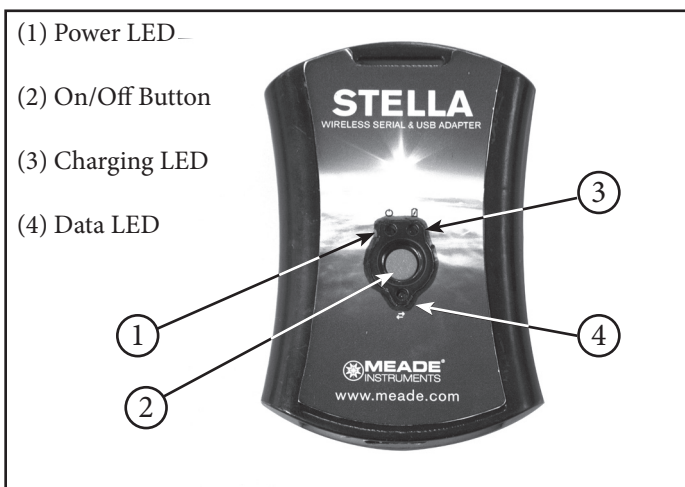
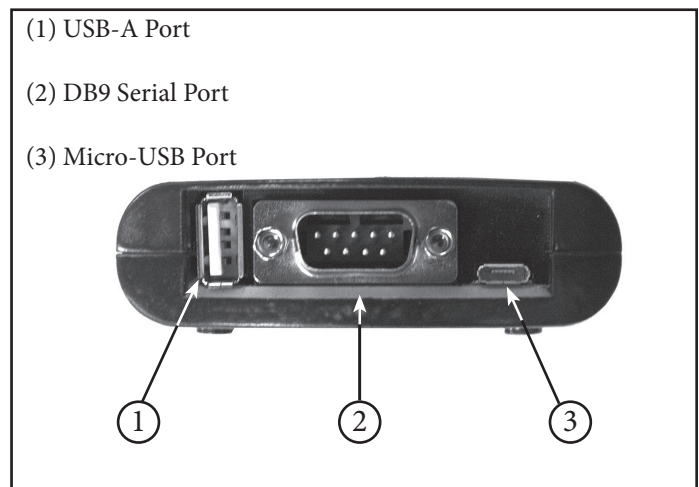

Fig. 1: Stella Wi-Fi Adapter (Top View)
Fig. 2: Stella Wi-Fi Ports (Side View)
Charge Stella before use! Plug in the included AC adapter into Stella's micro-USB port (3, Fig. 2) to charge. Stella will be fully charged once its charging indicator LED (3, Fig. 1) turns off. Charging time will depend on initial battery level. When fully charged, Stella's internal rechargeable lithium ion battery should last 4-8 hours depending on usage.
To turn Stella on and off, press and release the center on/off button (2, Fig. 1). The power LED (1, Fig. 1) will illuminate when on.
- For Meade AutoStar and AudioStar equipped telescopes, use the Meade #505 Cable set. Connect the 4-pin cable side to the bottom of the hand box and 9-pin serial side (2, Fig. 2) to Stella.
- For AutoStar II equipped telescopes, use the Meade #507 cable set. Connect the 6-pin cable side to the RS232 port on the telescope control panel, and 9-pin serial side (2, Fig. 2) to Stella.
- AutoStar III telescopes, such as the Lightswitch (LS) telescope, will require a USB A/B cable to connect to the telescope mount. Connect the USB-B side to the LS control panel, and USB-A side to Stella (1, Fig. 2).
2. Press and hold the center button for 5 seconds, then release. The data LED (4, Fig. 1) will begin to flash slowly. When Stella has completed the reset it will flash quickly.